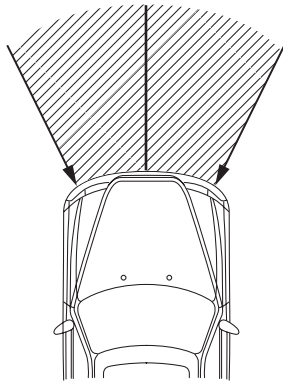

Fig.1
- (b) When the vehicle is involved in a frontal collision in the hatched area (Fig.1) and the shock is larger than the predetermined level, the SRS is activated automatically. The safing sensor is designed to activate at a lower deceleration rate than the airbag sensor. As illustrated in Fig.2, ignition is caused when a current flows to the squib, which happens when the safing sensor and the deceleration sensor go on simultaneously. When a deceleration force acts on the sensors, 2 squibs in the driver airbag and front passenger airbag ignite and generate gas. The gas discharging into the driver airbag and front passenger airbag rapidly increases the pressure inside the bags, breaking the Steering pad and instrument panel. The deployment of the bags then ends, and the bags deflate as the gas is discharged through discharge holes at the rear of the bag.